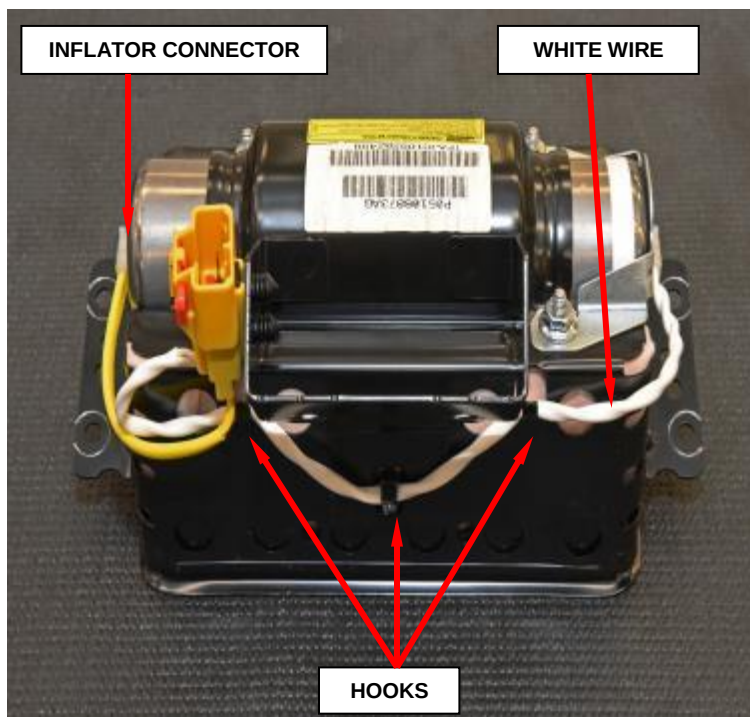

Figure 107 – Retrofit Complete
- r. Attach the white wire to the three hooks on the housing (Figure 107).
- t. Connect the single yellow wire inflator connector to the end of the inflator after removing the protective tape from the end of the inflator (Figure 107).
- u. Passenger airbag retrofit is complete (Figure 107).